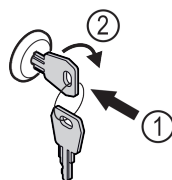

Fig. 46 Example illustration
- Insert key Fig. 46 (1).
- Turn key clockwise by 90° Fig. 46 (2).